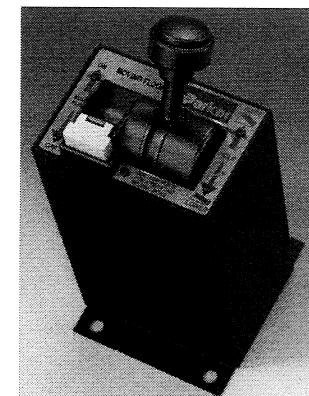

Figure 3
- Turn the PTO switch on and use the Combo valve AVCP-695-M-T-8 to control the CVA16DP valve using the lever control to raise, hold, or lower the dump trailer. (Figure 3)